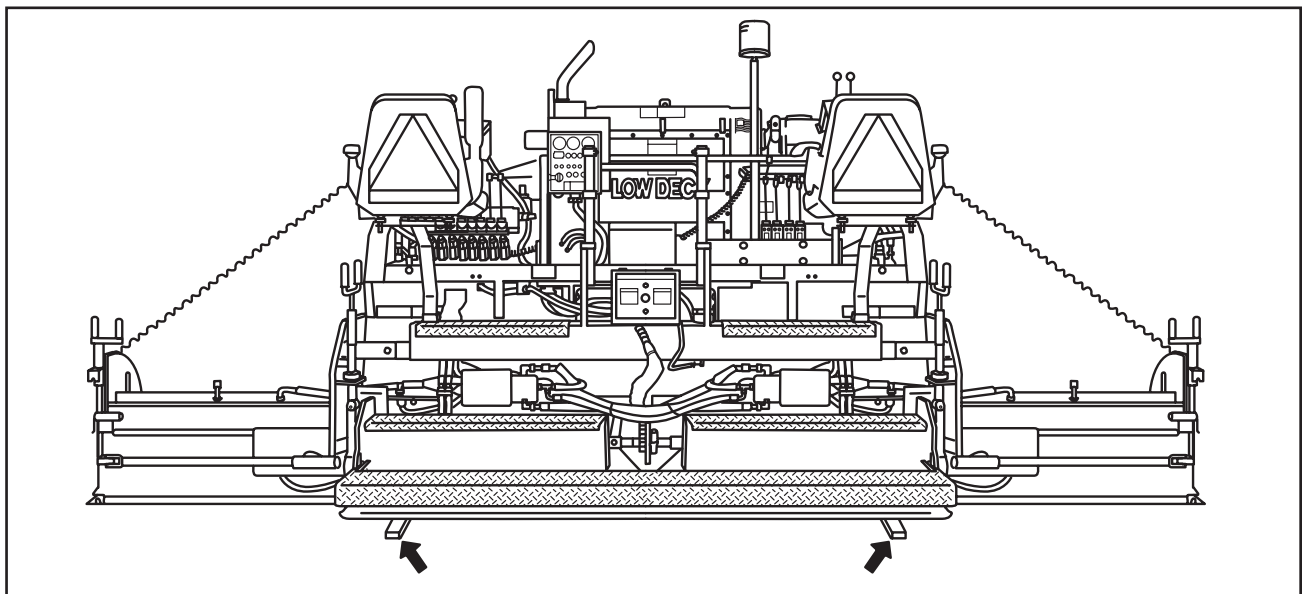

FIGURE 3-18. STARTER BLOCKS
3. To set depth, place screed on starter blocks (see Figure 3-18).